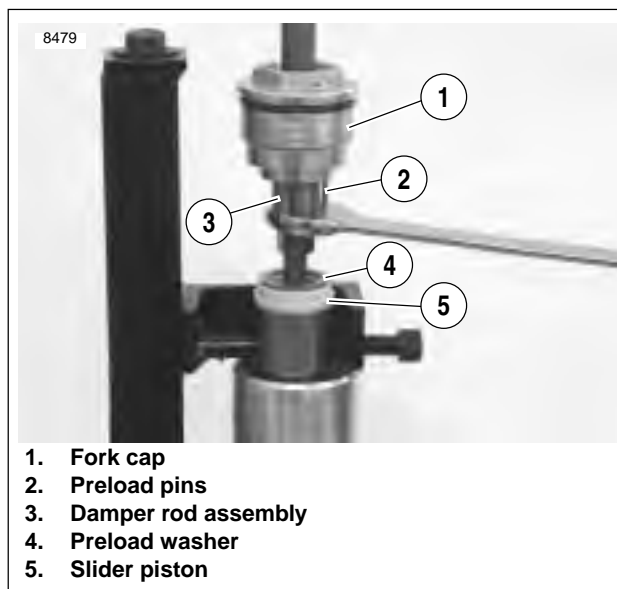

Figure 1-40. Holding Damper Rod Assembly
7. See Figure 1-40. Hold damper rod assembly (3) and remove fork cap (1).
See Figure 1-40. Be careful not to damage preload pins (2) while holding damper rod assembly (3).
8. Remove preload washer (4) and slider piston (5).
- See Figure 1-40. Hold damper rod and install fork cap onto damper rod assembly tightening to 22-30 ft-lbs (30-40 Nm).